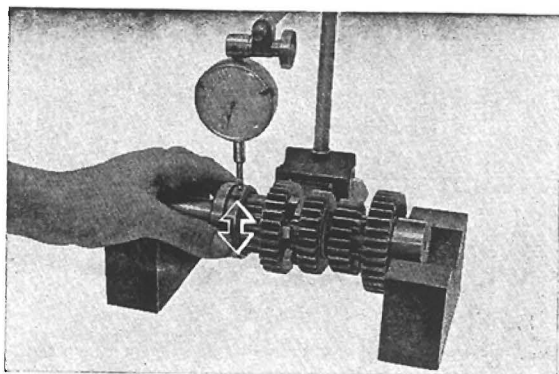

Fig. 3.113 Measuring bearing diametrical clearance
6. Double row ball bearing clearance (M, C) (Fig. 3.113)